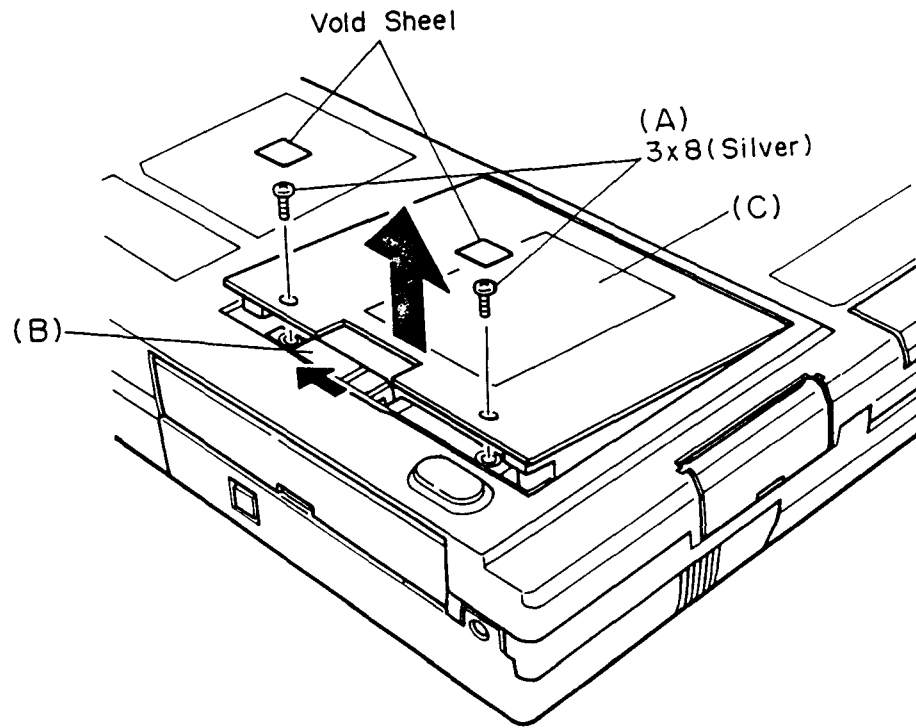

Figure 4-1 Removing the HDD unit
2. Turn the system unit upside down and remove the two screws (A) located underneath two void seals from the bottom cover.
**CAUTION:** Do not use any different screw instead of the screw (A). If it is shorter than the screw (A), the slide switch (B) will not be locked. If it is longer than the screw (A), the lock system of the slide switch (B) will be broken.
3. Slide the slide switch (B) to the direction of the small arrow shown in figure 4-1 and remove the HDD unit (C) from the system unit.